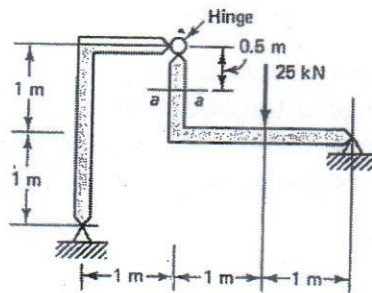

Fig. 1
1. (a) For the planar structures shown in Fig. 1, find the reactions and determine the axial force P, the shear V, and the bending moment M at section a-a caused by the applied load. (10)